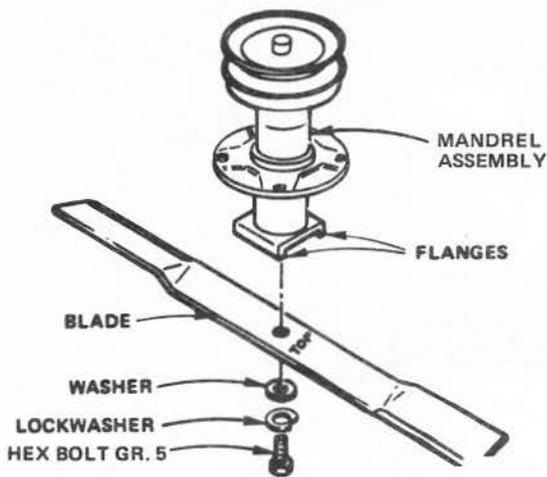

FIGURE 21
1. Remove Bolt, Lockwasher and Washer (Fig. 21) (turn counterclockwise (↺)).